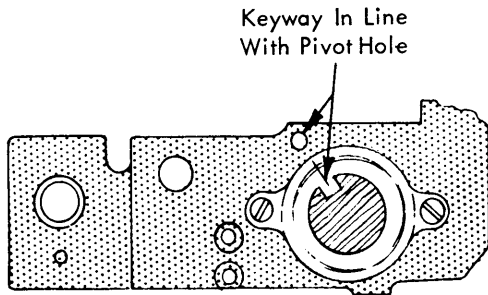

FIGURE 45. Preliminary Timing
1. Preliminary Print Shaft Timing - With the cycle shaft latched in its rest position, loosen the print shaft gear and rotate the print shaft so that the keyway is approximately in line with the end of the ribbon lift cam follower pivot screw (Fig. 45). The keyway will be about 45° to the rear from the top of the shaft.